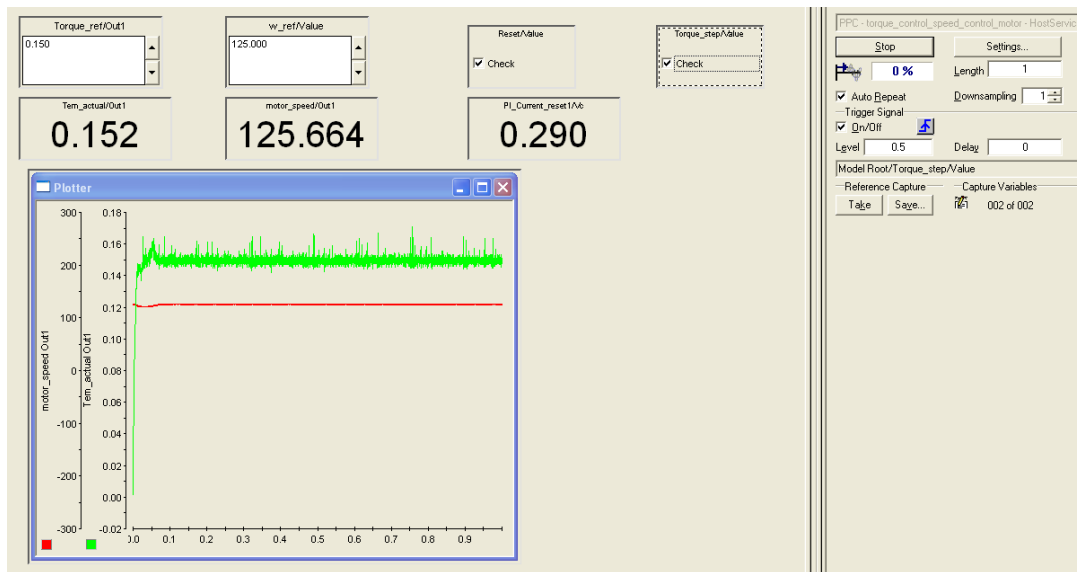

Figure 6.9: dSpace ControlDesk -speed controlled DC motor with torque controlled load
6. Give a step change in load torque from **0 to 0.15Nm** and note the resultant speed. **Capture this waveform** (Fig 6.9.).
7. Theoretically estimate the voltage required to maintain the same speed from the equations (1) and (2).
11. Theoretically estimate the voltage required to maintain the same speed using eq. (1) & (2).